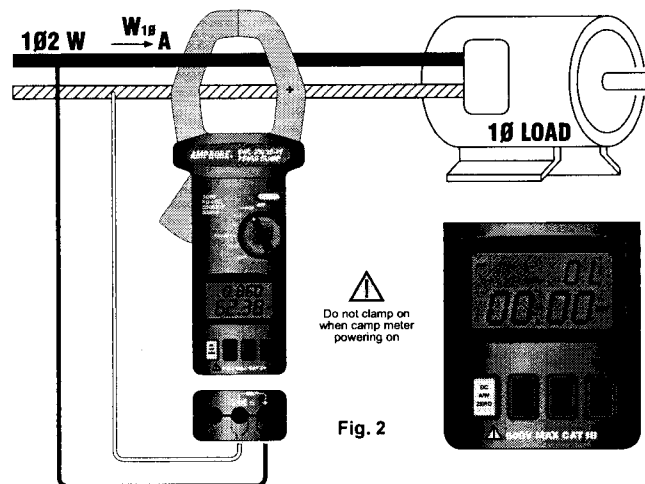

Fig. 2
2. Set the rotary switch at PFKW (refer to figure 2).